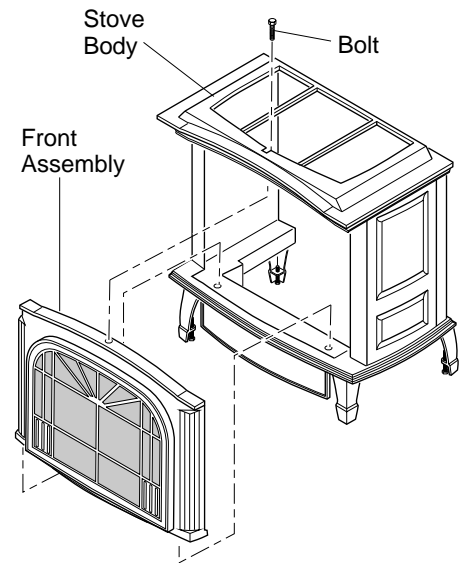

Figure 13 - Removing Front Assembly
- Remove 2 bolts from bottom of stove and one from the top of the stove to remove the front panel assembly (see Figure 13).